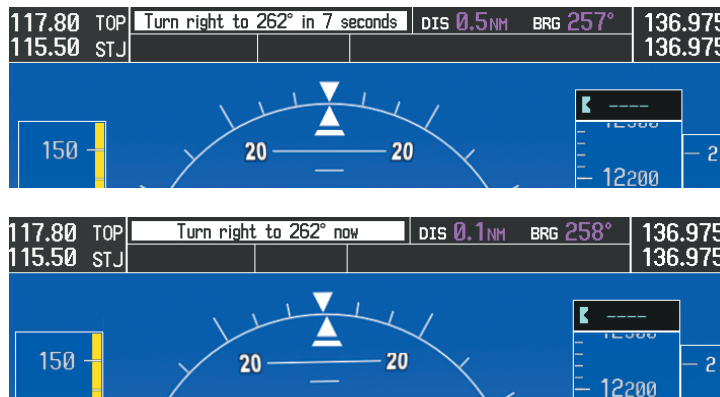

Figure 5-117 Turn to Intercept V244
8) At SLN, Victor Airway 244 (V244) is intercepted. Turn prompts are displayed in the PFD Navigation Status Box as seen in Figure 5-117.